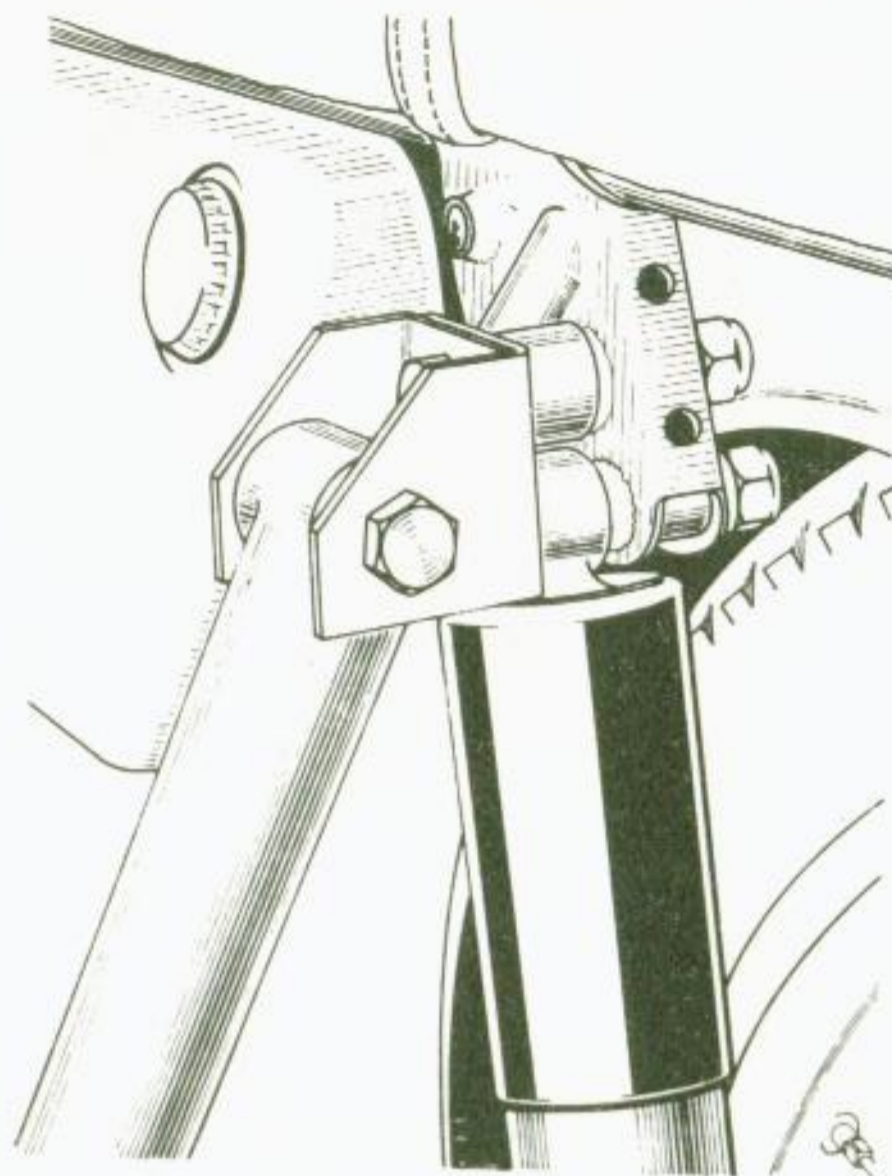

Fig. 2
(c) Remove the seat, the lifting handle and the bolt securing the nearside rear suspension unit to the frame. Loosely fit the rear upper mounting bracket using the holes left vacant by the lifting handle and the suspension mounting. Ensure that the shock absorber eye is sandwiched between the mounting plates and the frame. (See fig.2).
- (b) Fit the rear upper arm from the sidecar to the mounting bracket having first fitted the two rubber bushes into the eye on the end of the arm. Fit the securing bolt through the bracket and the bushed eye. Do not tighten. (See fig.2).